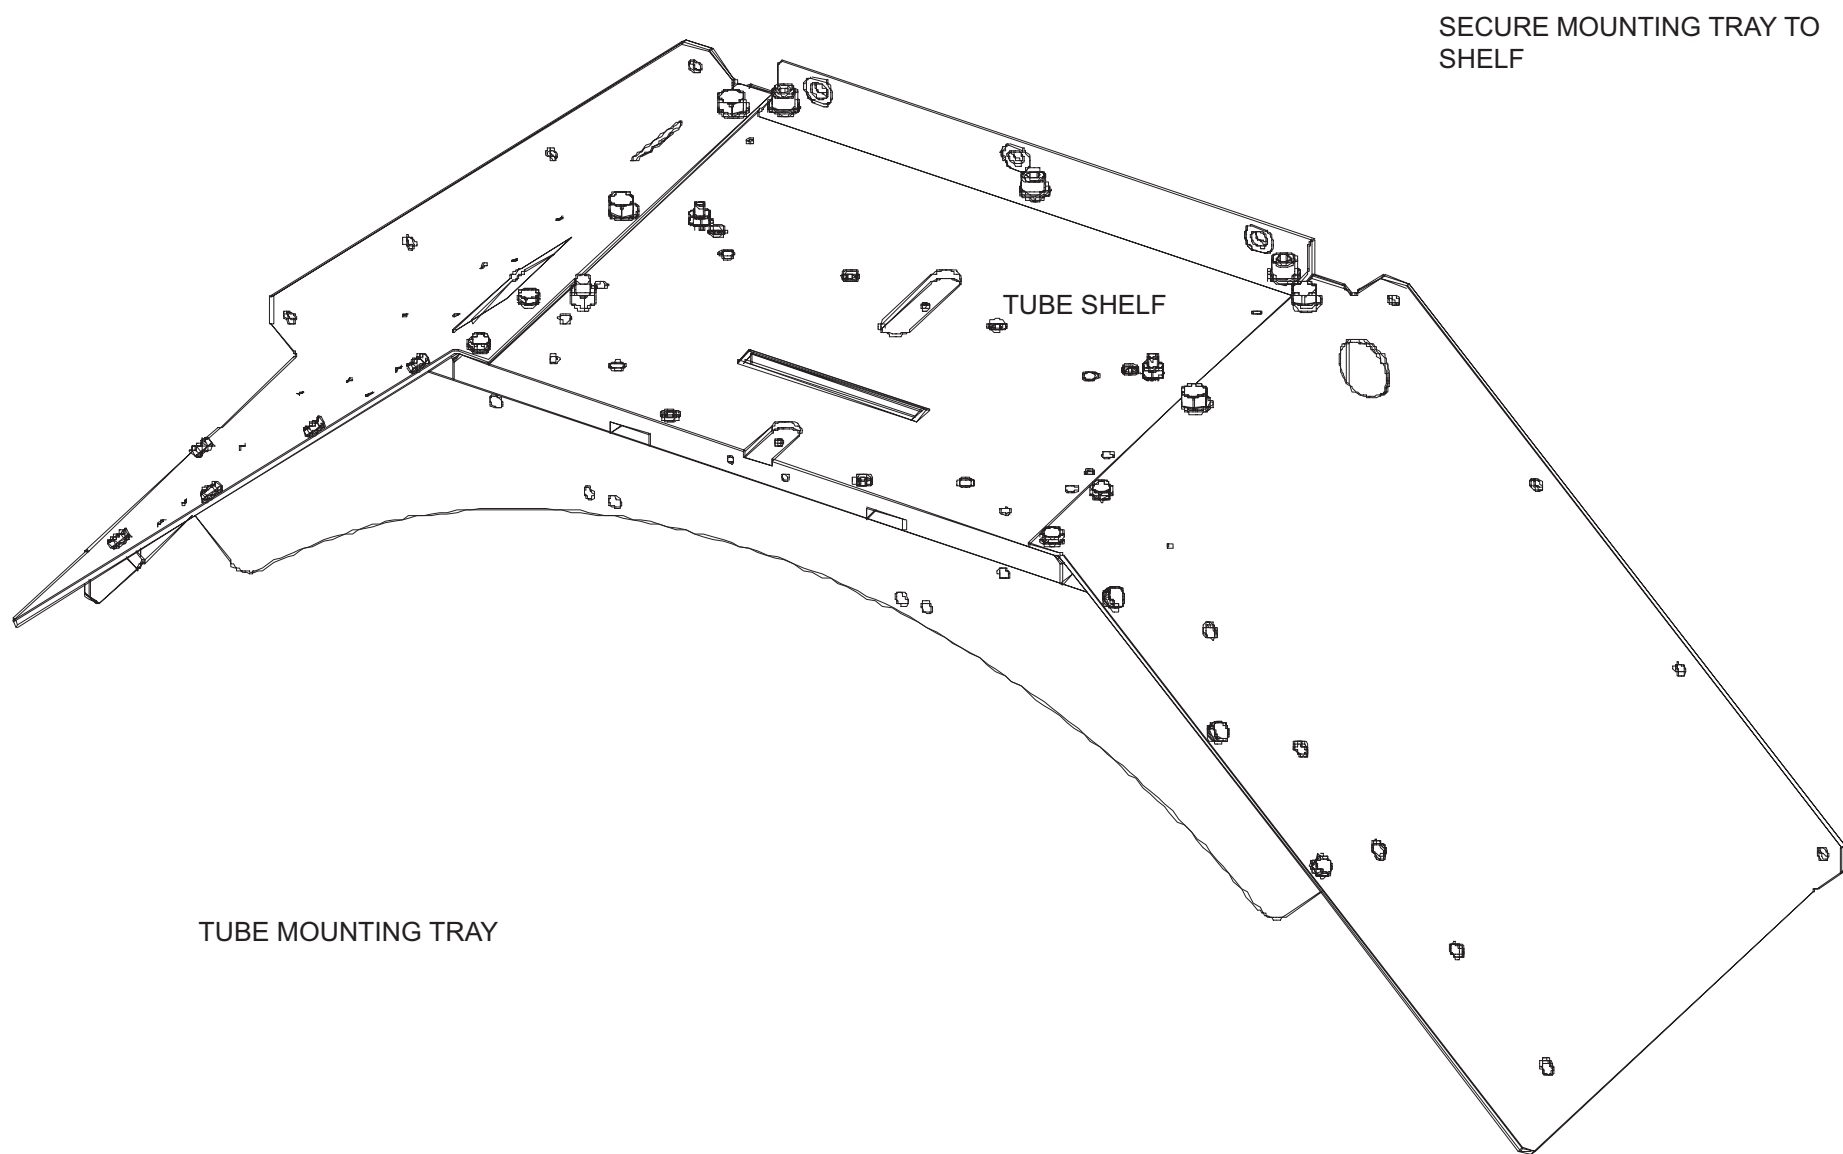

FIGURE 48 XRAY TUBE MOUNTING TRAY ON TUBE SHELF
3. Remove the four Cradle Locking Hex Head Bolts enough to slide Mounting Rails against Cradle and Tube Shelf. Install the Tray Table Slide to the Tube Shelf. Refer to Figure 48.